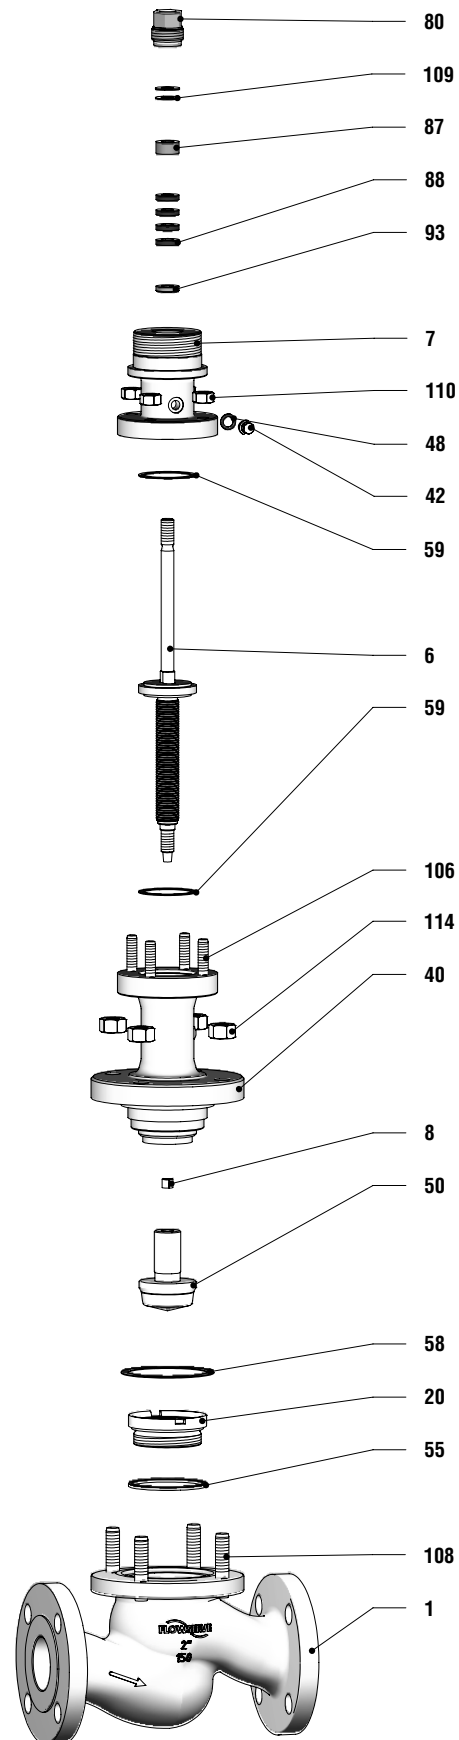

Figure 10: Disassemble / Reassemble the valve with bellows seal assembly for type A designs (Valve parts see Table 13, Page 17)
1. Turn the bonnet nuts (114) counter clockwise to loosen (See Figure 10: Disassemble / Reassemble the valve with bellows seal bonnet type A).
2. Turn the packing follower (80) counter clockwise to loosen.
3. Remove the Belleville springs (109).
4. Remove the upper stem guide (87).
5. Place the Ring Nut Tool (See Section 16: Special Tools) on the stem (50) and turn slowly.